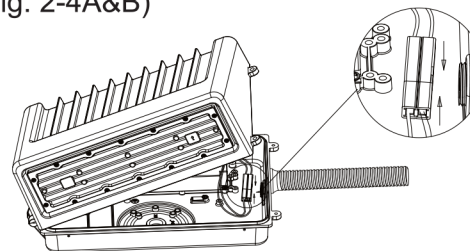

Fig. 2-4A
- Connect the quick connect terminal, then screw the fixture with bottom plate. (Fig. 2-4A&B)